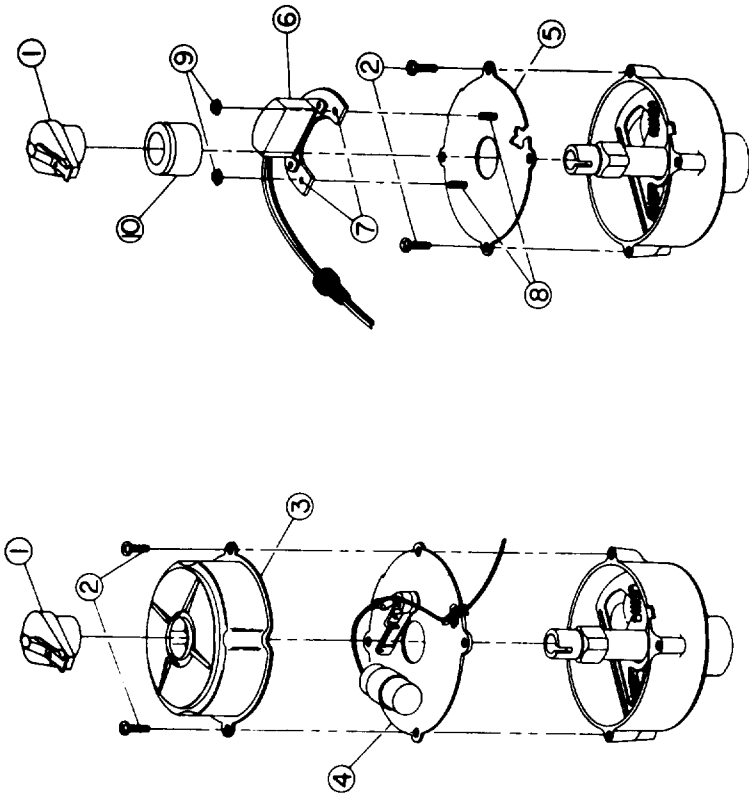

FIGURE 1
15. The wiring diagram of the original and conversion systems is shown in Figures 1 & 2.